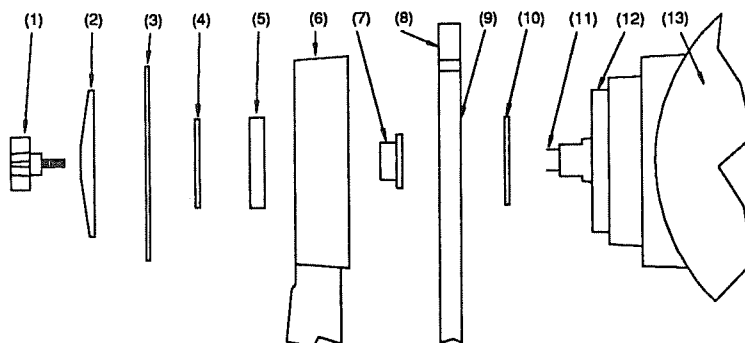

Fig. 13
2. Remove the Dec. lock knob (#1, Fig. 13), Dec. clutch plate (#2, Fig. 13), and Dec. setting circle (#3, Fig. 13) if installed, from the *left* fork arm. This is the fork arm that has a hole drilled in each side. The Teflon washer (#4, Fig. 13) and the spacer (#5, Fig. 13) (if on an MTS-SN8) should be discarded.
4. Completely remove the *left* fork arm and remove and discard the second teflon washer (#10, Fig. 13) (if on an MTS-SN6). Remember, parts #4, #5, and #10 will not be used.